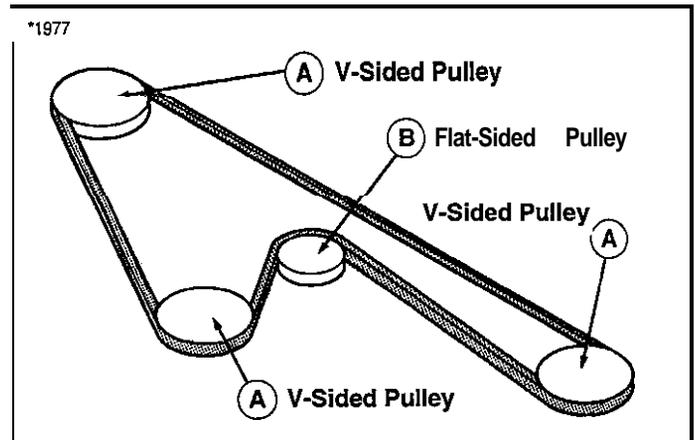

Figure 47. Mower Deck Drive Belt Routing - 44" & 50" Deck
7. Install a new belt as shown in Figure 47. Make sure that V-side of belt runs in arbor pulley (A) grooves and flat side of belt runs against idler pulley (B).